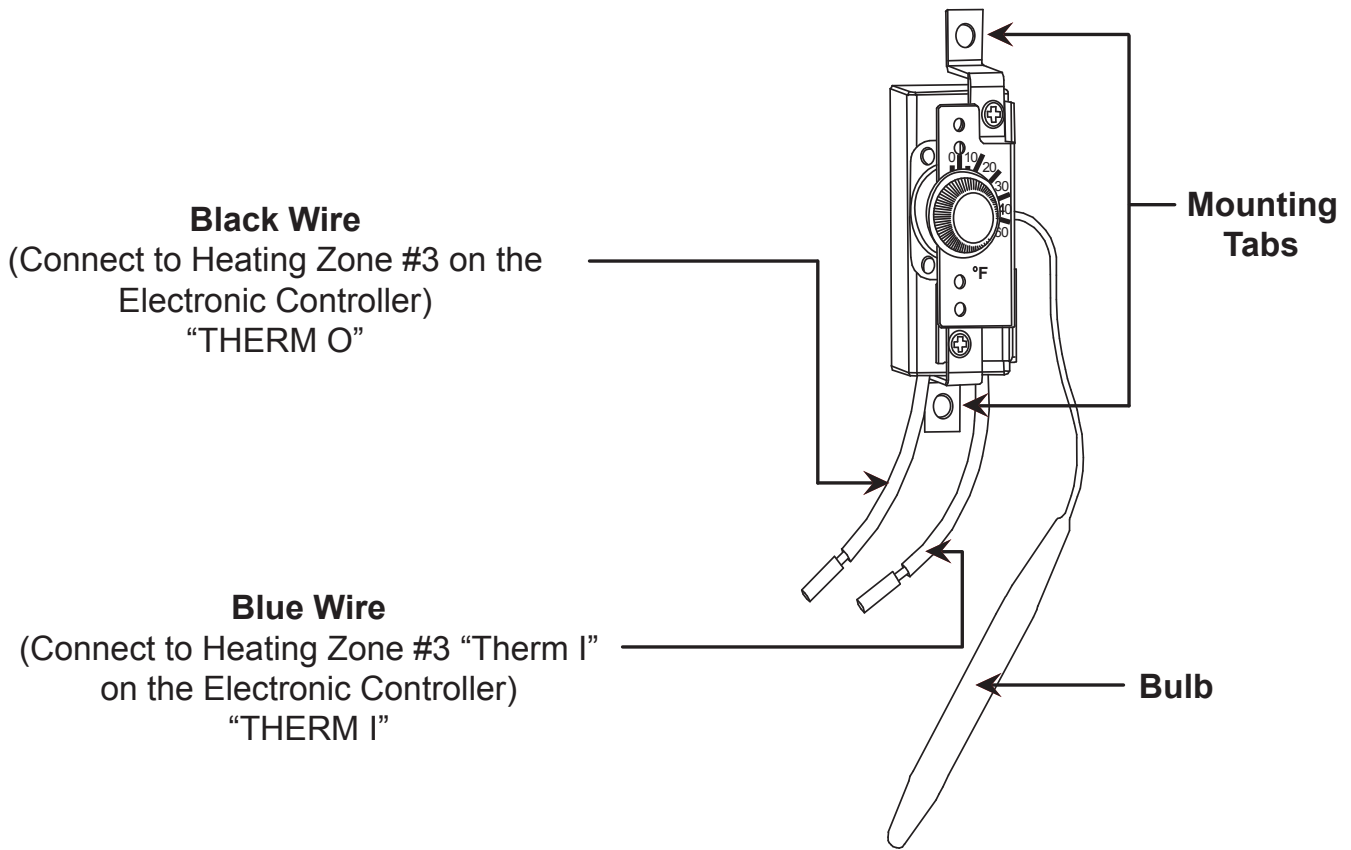

Figure 22
- Typically only the “bulb” of the thermostat needs to be physically mounted in the area requiring heat (usually in close proximity to the domestic water pump); reference Figure 22.
- The selected mounting location should allow for easy operator access; reference Figure 22.
2. Once the thermostat has been completely wired, permanently mount the thermostat in place; reference Figure 22.
3. Connect both wires to the appropriate leads of the thermostat; reference Figure 22.